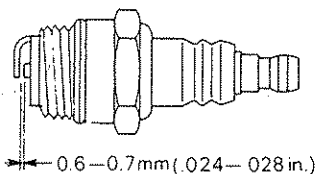

Figure 6
- The gap between two electrodes must be 0.6 – 0.7 mm (.024 – .028 in.). If the gap is too wide or too narrow, be sure to adjust it. (Figure 6)